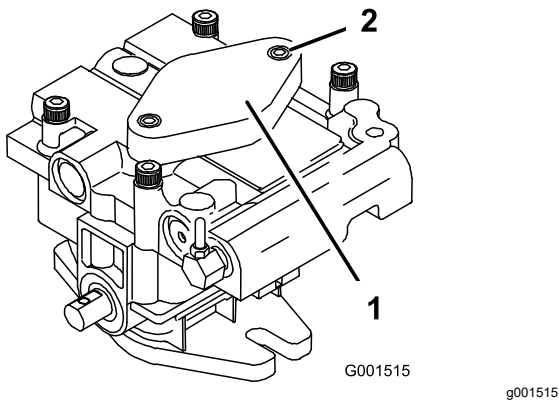

Figure 44
- B. Loosen the 2 socket-head capscrews (Figure 44) 1-1/2 turns only.